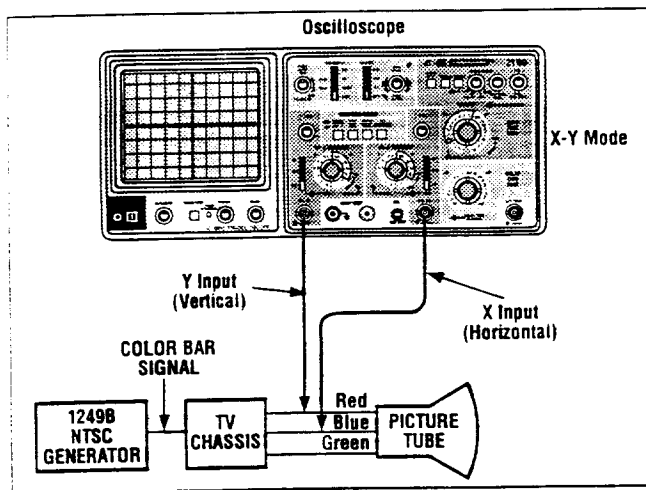

Fig. 5. Using a Conventional Oscilloscope as a Vectorscope, step 1 (set-up).
3. Connect the X and Y inputs of the oscilloscope to the red gun as shown in Fig. 5.
4. Adjust the vertical and horizontal oscilloscope gain to equal amounts. This will cause the spot to become a 45° line as shown in Fig. 5.